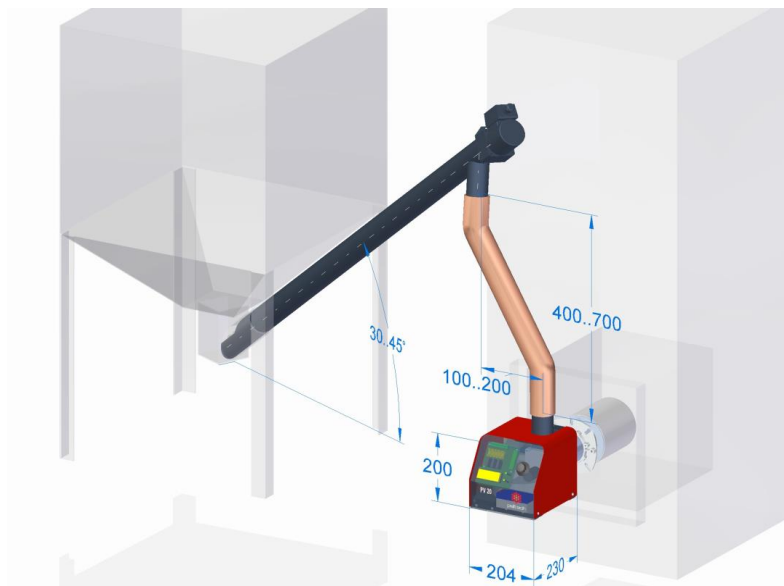

Figure 13 External auger placement
- The container must be positioned in a way that the raising angle of the feeding auger does not exceed 45°. Figure 13
The external auger transports pellets from the pellet container to the burner. The burner controls the work of the external auger. The external auger is connected to the burner with a special Ø 60mm hose. The hose is made of melting polyurethane material and acts as a safety measure against back-burning. External auger can be fixed to a ceiling or container depending on conditions at the site. Figure 13 depicts correct installation of external auger.
- The external auger is connected to the burner according to Figure 13.